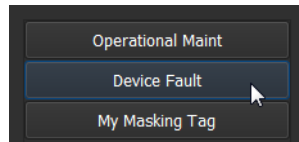

Fig. 2-25: Apply Another Tag Mask
- 3 Right-click, select 'Masking with Tag' and then select another **Tagged Mask**. See Figure 2-25.